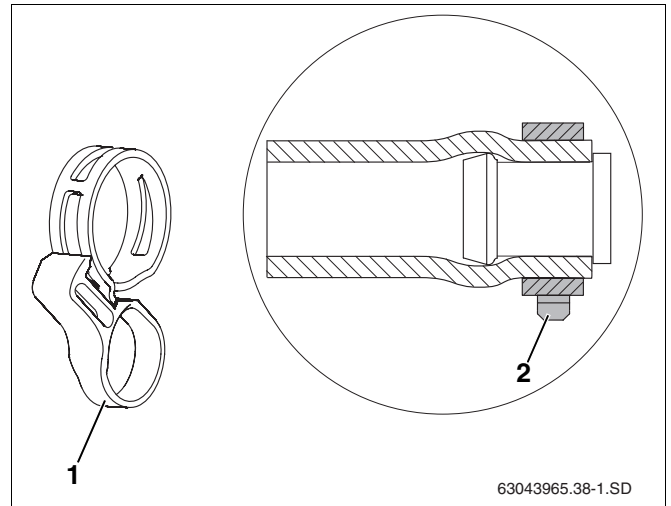

Fig. 39 Hose clip with locking ring, also shown fitted to the pre-assembled dummy plug
- ▶ The hose clip **MUST** be positioned correctly **BEFORE** the release ring (Fig. 39, **Item 1**) is removed (Fig. 39, **Item 2**). Subsequent loosening using pliers can impair resilience.